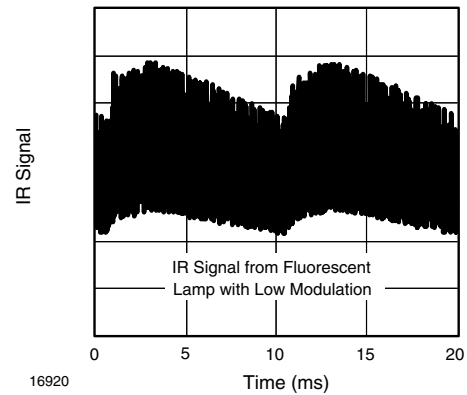
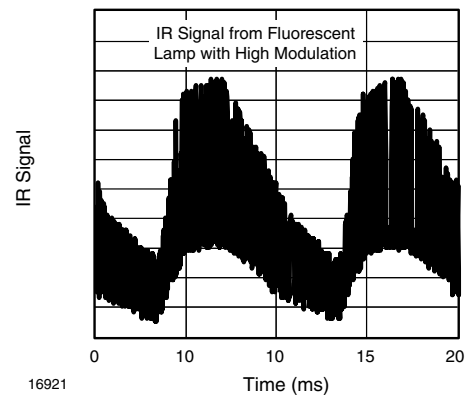

Fig. 14 - IR Signal from Fluorescent Lamp with Low Modulation
Fig. 15 - IR Signal from Fluorescent Lamp with High Modulation
- Modulated noise from fluorescent lamps with electronic ballasts (see figure 14 or figure 15)